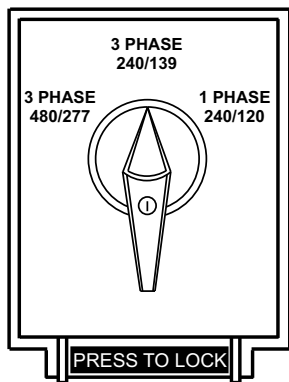

Figure 16. Voltage Selector Switch
A wide range of voltages are available to supply voltage for many different applications. Voltages are selected by using the **voltage selector** switch (Figure 16). To obtain some of the voltages as listed in Table 7 (see below) will require a fine adjustment using the **voltage regulator (VR) control knob** located on the control panel.
The voltage selector switch (Figure 16) is located above the output terminal panel's Hard Wire Hook-Up Panel. It has been provided for ease of voltage selection..